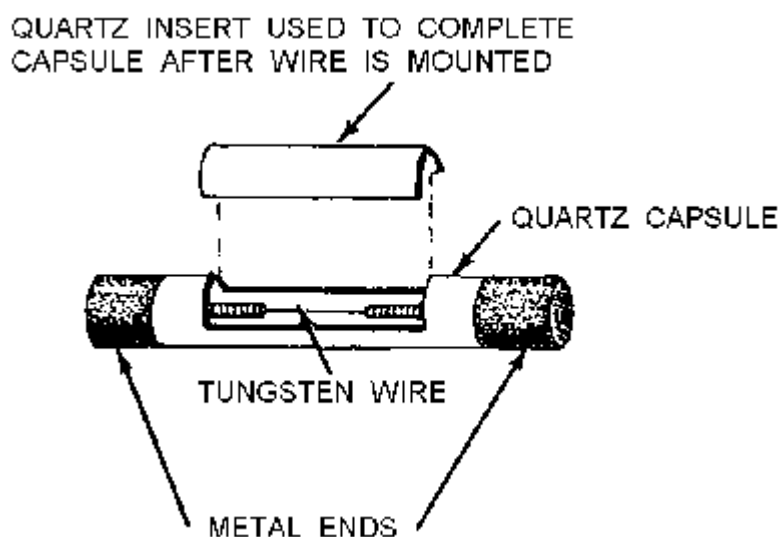

Figure 2-2.—Typical barretter.
**BARRETTTER.**—The construction of a typical barretter is shown in figure 2-2. The fine wire (usually tungsten) is extremely small in diameter. This thin diameter allows the rf current to penetrate to the center of the wire. The wire is supported in an insulating capsule between two metallic ends, which act as connectors. Because of these physical characteristics, the barretter resembles a cartridge-type fuse. The enclosure is a quartz capsule made in two parts. One part is an insert cemented in place after the tungsten wire has been mounted. In operation, the barretter is matched to the rf line after power is applied.